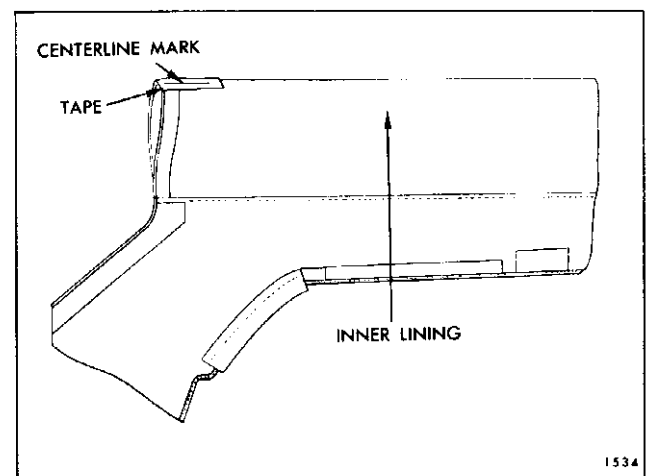

Fig. 13-39 - Marking Folding Top Material
4. Fold new top material in half so that inner lining of top material is exposed (Fig. 13-39). Install a 6" piece of tape on inner surface at centerline fold of new top material (Fig. 13-39). Using a pencil, mark the approximate centerline of new top material along entire length of tape.